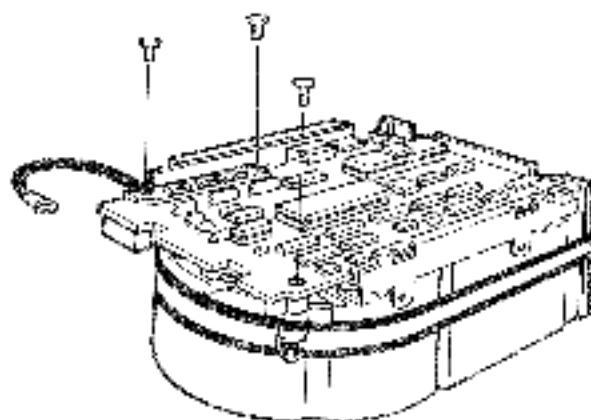

Figure 10-12 Removal of Phillips Screws from Heatsink
5. Remove the three Phillips screws from the heatsink, the grounding strip, and the cover opposite the heatsink (Figure 10-12).